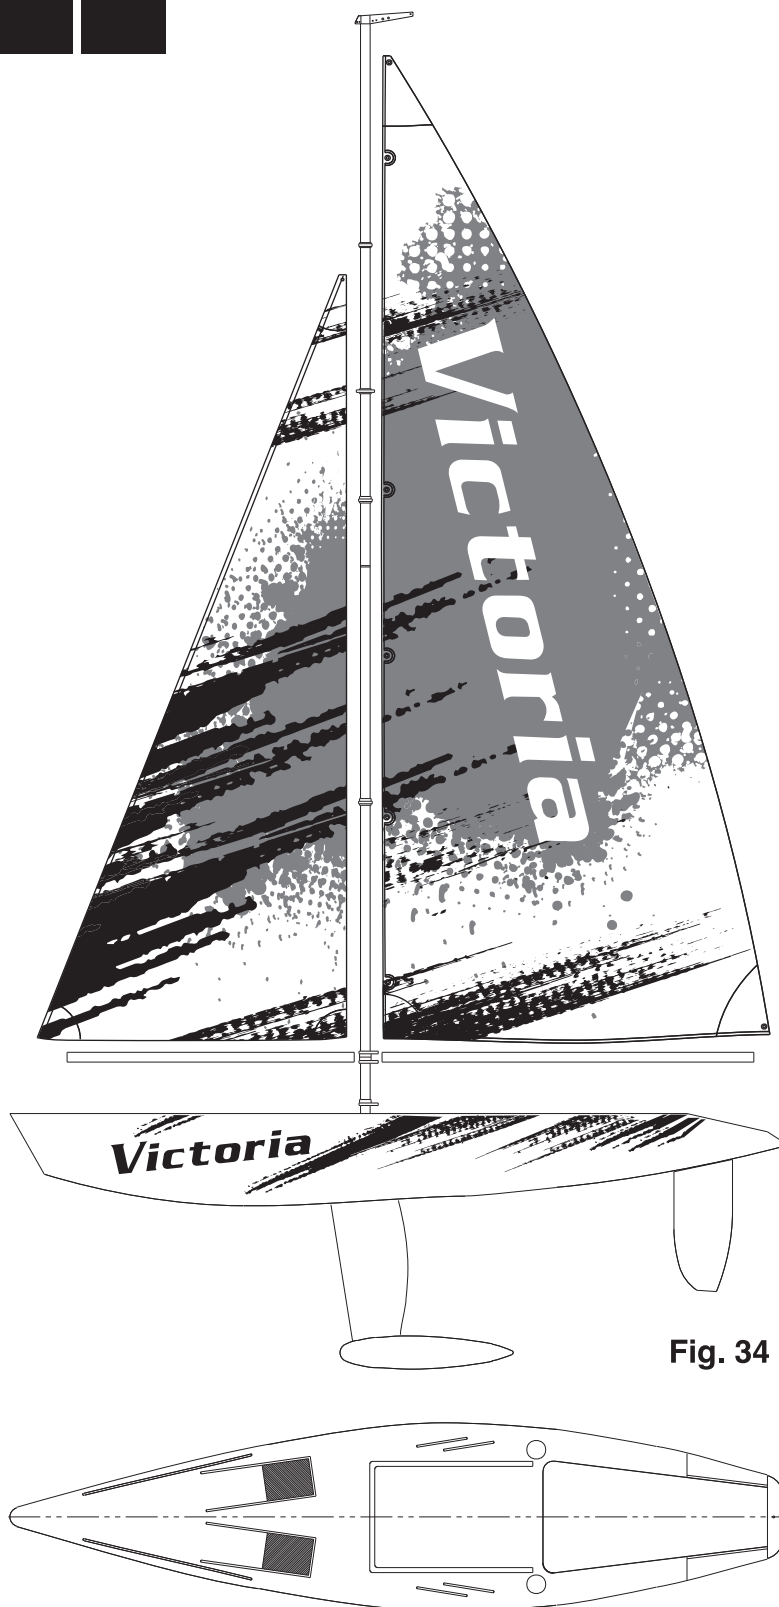

Fig. 34
2. Carefully remove the backing from each self-adhesive decal and apply to the hull as shown in Fig. 34.